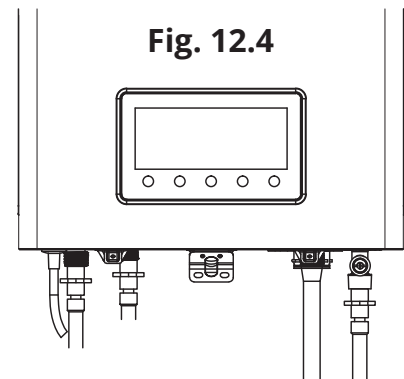

Fig. 12.4
- **If the neutralizer is installed horizontally,** rotate the neutralizer to position the outlet at the highest point. (Refer to Fig. 12.4)